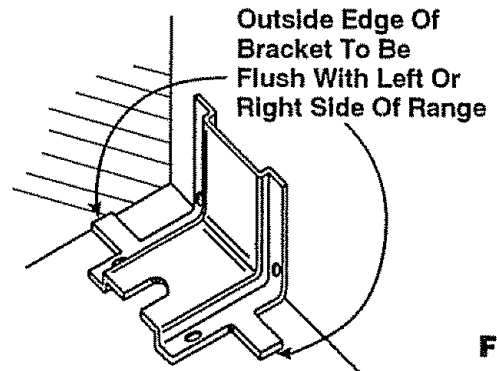

Fig. 1
3. If the bracket side of the range is adjacent to a cabinet, place the bracket against back wall and cabinet as shown in Fig. 1.